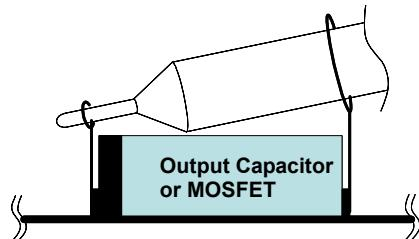
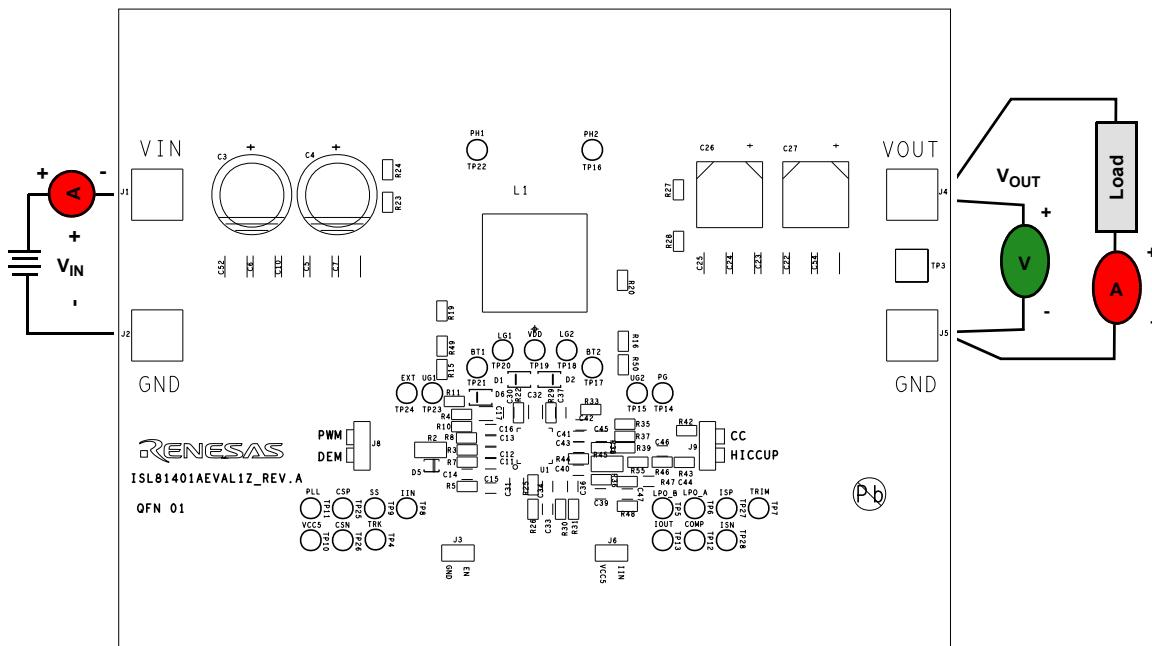

Figure 2. Proper Probe Setup to Measure Output Ripple and Phase Node Ringing
Figure 3. Proper Test Setup
As shown in Figure 3 on page 6, 6V to 40V VIN is supplied to J1 (+) and J2 (-). The regulated 12V output on J4 (+) and J5 (-) can supply up to 8A to the load. Due to the high power efficiency, the evaluation board can run at 8A continuously without airflow at room temperature ambient conditions.
- (1) Jumper J8 provides the option to select PWM or DEM. Jumper J9 provides the option to select constant current limit or HICCUP. Refer to Table 2 for the operating options. Ensure that the circuit is correctly connected to the supply and electronic loads before applying any power. Refer to Figure 3 on page 6 for proper setup.
- (2) Turn on the power supply.
- (3) Adjust input voltage V_{IN} within the specified range and observe the output voltage. The output voltage variation should be within 3%.
- (4) Adjust the load current within the specified range and observe the output voltage. The output voltage variation should be within 3%.
- (5) Use an oscilloscope to observe output voltage ripple and phase node ringing. For accurate measurement, refer to Figure 2 for the proper test setup.